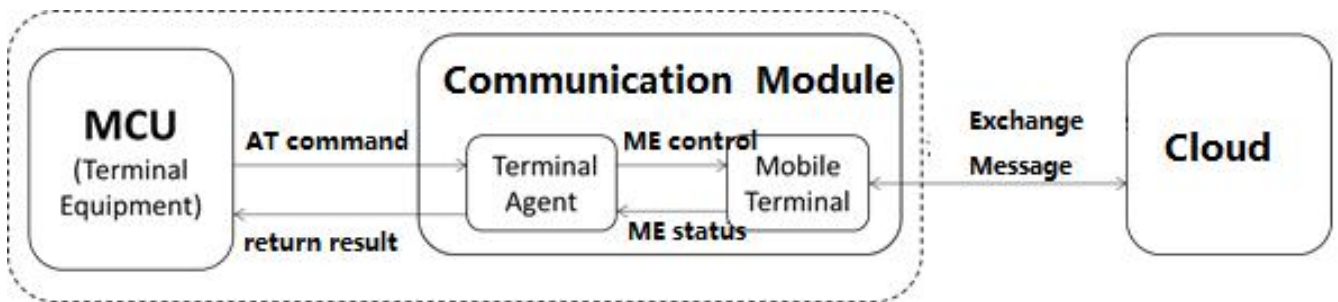

Figure 1-1 Architecture overview
The system structure of terminal equipment (TE), terminal adapter (TA) and mobile terminal (MT) and the basic process of establishing mutual association are shown in Figure 1-1.
According to Figure 1-1, the MCU module and the communication module are jointly integrated into the IoT devices. The MCU communicates with the TA through the AT command to control the MT (ME refers to the mobile equipment) and realize the interaction between the Internet of Things devices and the cloud.